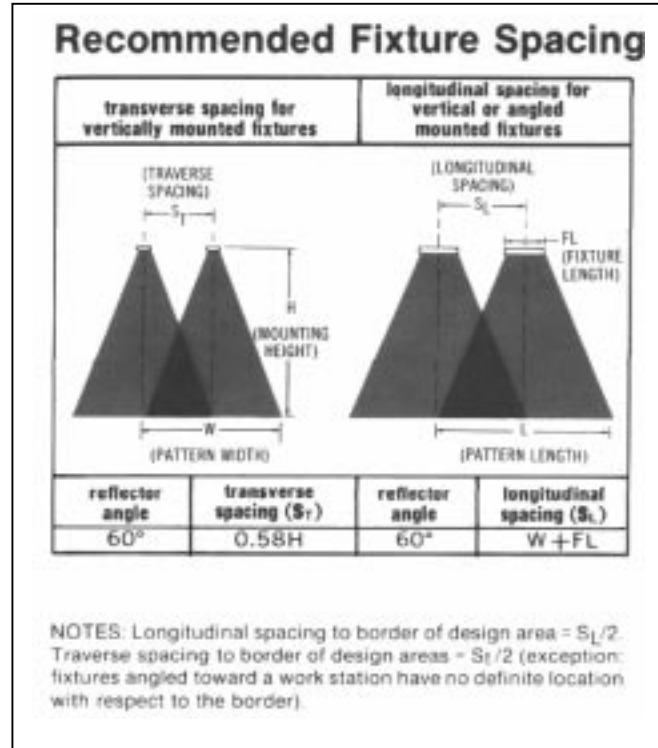

Figure 9: Recommended spacing for 50% overlap
- If the design area exceeds the pattern area of individual fixtures, locate multiple fixtures with patterns overlapping as necessary. Select fixtures based on $\frac{1}{4}$ of the watts per square foot requirement (see Figure 9) at a given mounting height and element. For example, if 25 watts per square foot are required, choose a fixture with an input watt density of 6.3 at the required mounting height. For primary area heating do not install less than 12 watts per square foot. Double the watt density along areas adjacent to the outside walls of the building. Do not radiate outside walls.